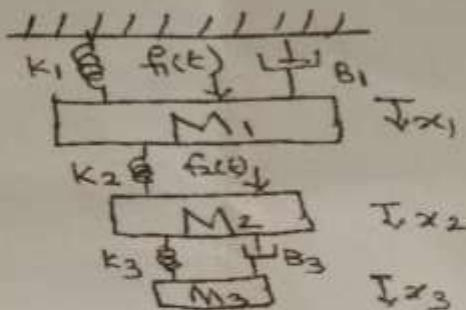

Figure 1.
11. (a) Write the differential equations governing the mechanical translational system shown in figure 1. Draw the electrical equivalent analogy circuits. (16)